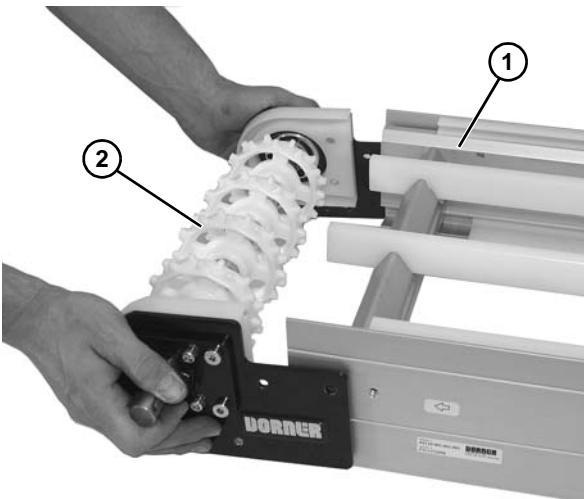

Figure 44
3. Remove the drive tail assembly (Figure 44, item 1) from the frame (Figure 44, item 2).